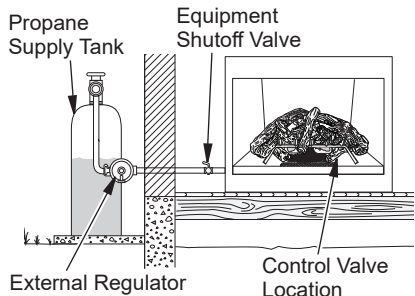

Figure 15 - Checking Gas Joints for Propane Gas
3. Check all joints from gas meter to equipment shutoff valve for natural gas or propane supply to equipment shutoff valve for propane (see Figure 15 or 16). Apply a noncorrosive leak detection fluid to all joints. Bubbles forming show a leak.
4. Check all joints from equipment shutoff valve to control valve (see Figure 15 or 16). Apply a noncorrosive leak detection fluid to all joints. Bubbles forming show a leak.